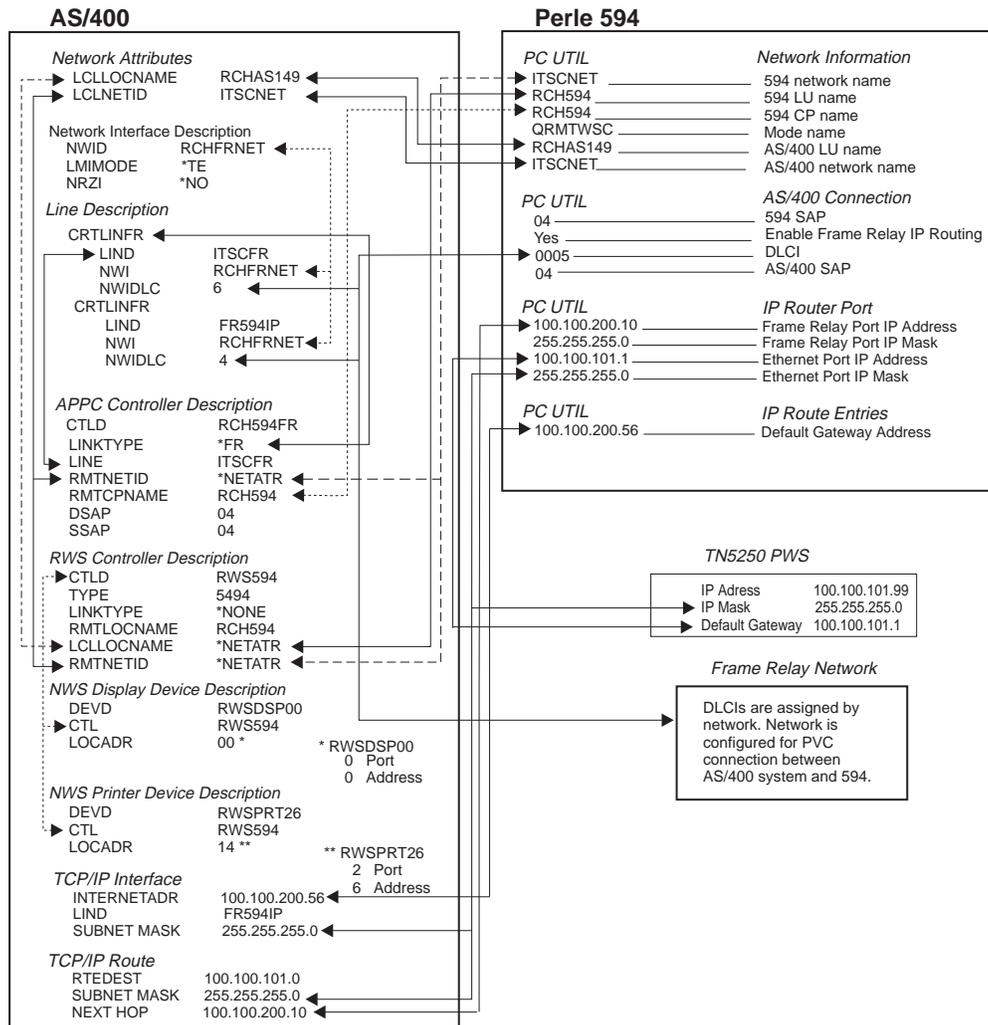

Fig. 20: AS/400 Frame Relay and IP Routing Config. cross reference
- Fig. 20: AS/400 Frame Relay and IP Routing Config. cross reference 11